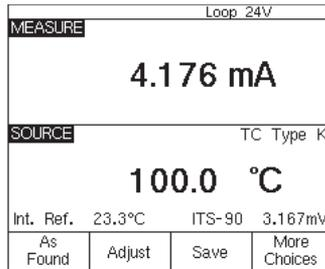

Figure 5
6. Next, depress the "SETUP" button on the DPC. The cursor should begin on loop power. Depress "ENTER," down arrow until the DPC cursor is on Enable 24V and depress "ENTER." Next depress the "Done" softkey (Figure 5).